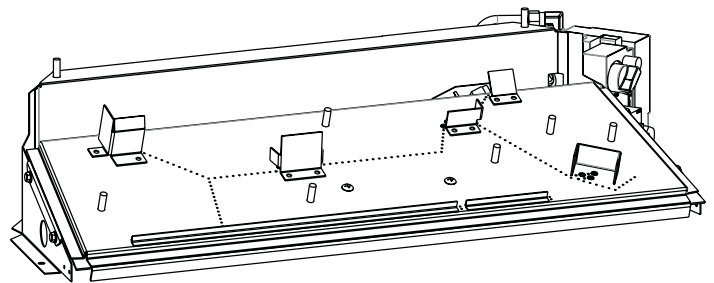

Figure 10
Assembly Procedure: (Figures 10 and 11)
2. An anchor hole is provided in the two bottom side burner support. After centering the burner correctly, mark the hole positions on the fireplace/firebox floor. Drill two (2) 5/32" diameter holes approximately 1-1/2" deep for masonry screws or 1/8" hole for sheet metal screws.
3. Anchor the burner to the fireplace/firebox floor using the screws provided. Refer to Figure 10.